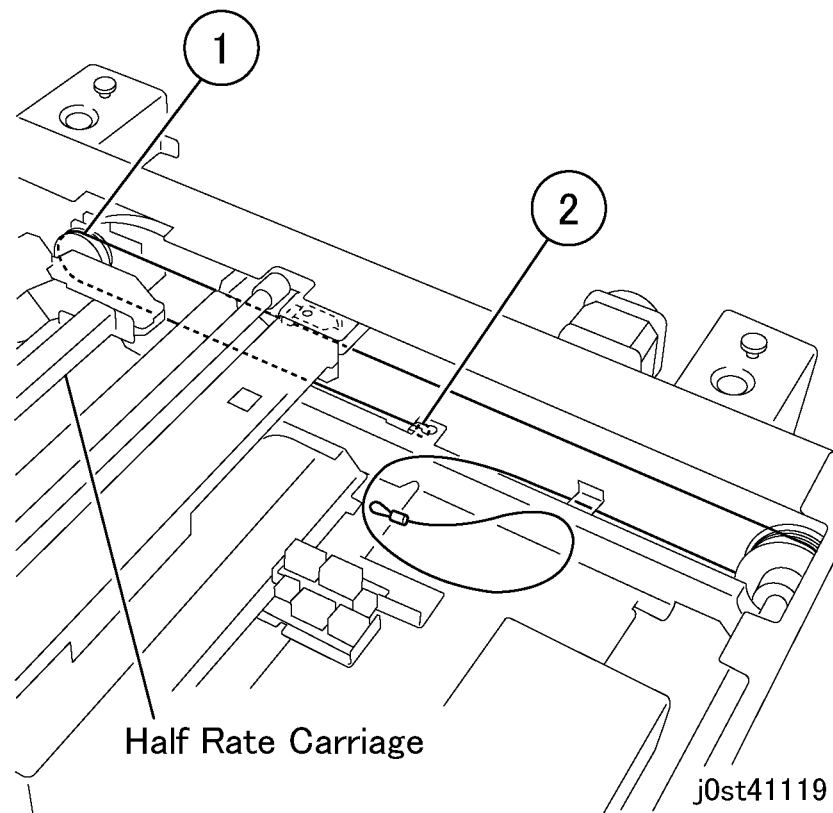

Figure 9 Installing the Carriage Cable (j0st41119)
2. Install the ball end of the Carriage Cable. (Figure 9)